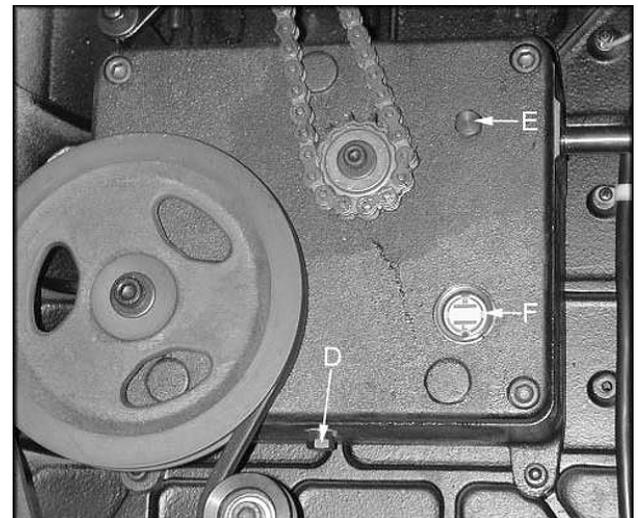

Figure 27
- The gear box oil should be changed once a year. Remove the drain plug (D, Fig 27) to drain the oil. Refill the gear box with 60-90 weight gear oil through the fill hole (E, Fig 27) until the sight glass (F, Fig 27) reads full. The sight glass (F, Fig 27) should be checked periodically and oil added as necessary.